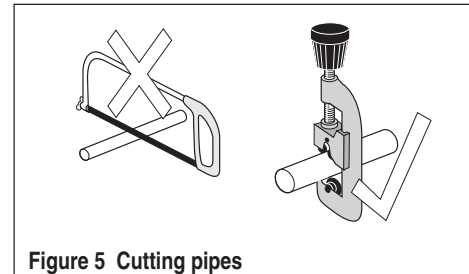

Figure 5 Cutting pipes
3.12 Cut all necessary pipework to length with a pipe cutter and not a hacksaw, to minimise swarf - see Fig. 5.